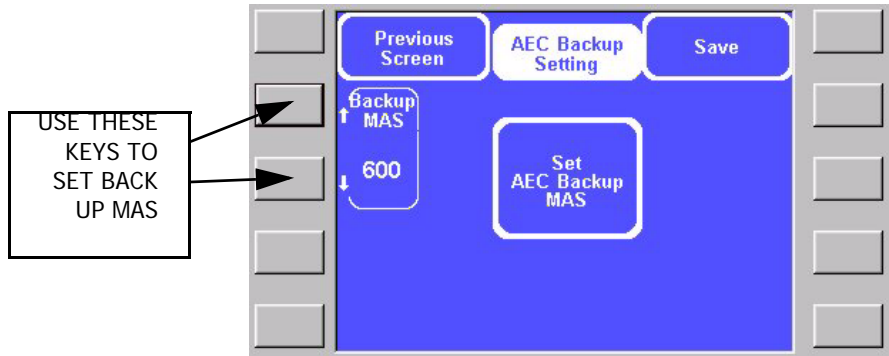

Figure 5-9. Choosing a Back Up Time/MAS Setting
1. Adjust the backup mAs setting using the appropriate keys as shown in Figure 5-9, above until desired back up mAs is displayed.